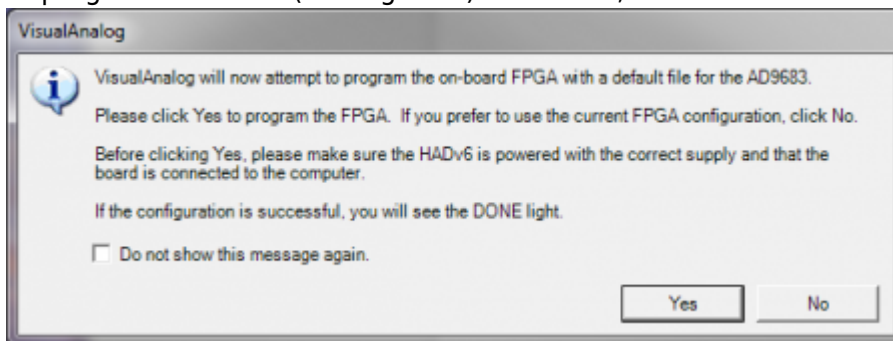

Figure 4. VisualAnalog Default
- After the template is selected, a message appears asking if the default configuration can be used to program the FPGA (see Figure 4). Click **Yes**, and the window closes.